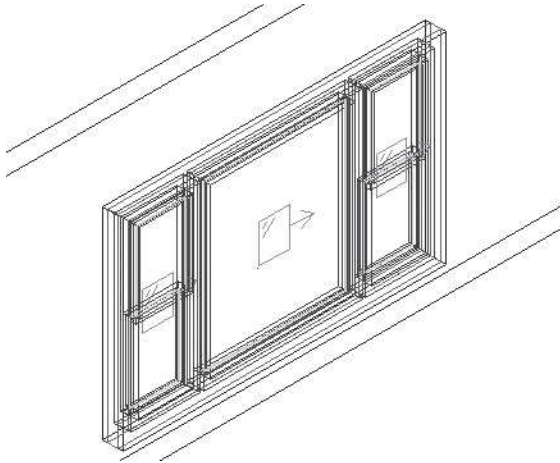

FIGURE 6.52 *DH-Fixed door/window assembly style*
6. Turn on cell markers, and merge the inner two cells. Create an override of the cell infill for the inner cells, and set the inner cell to the **Fixed** cell infill as shown in Figure 6.52.